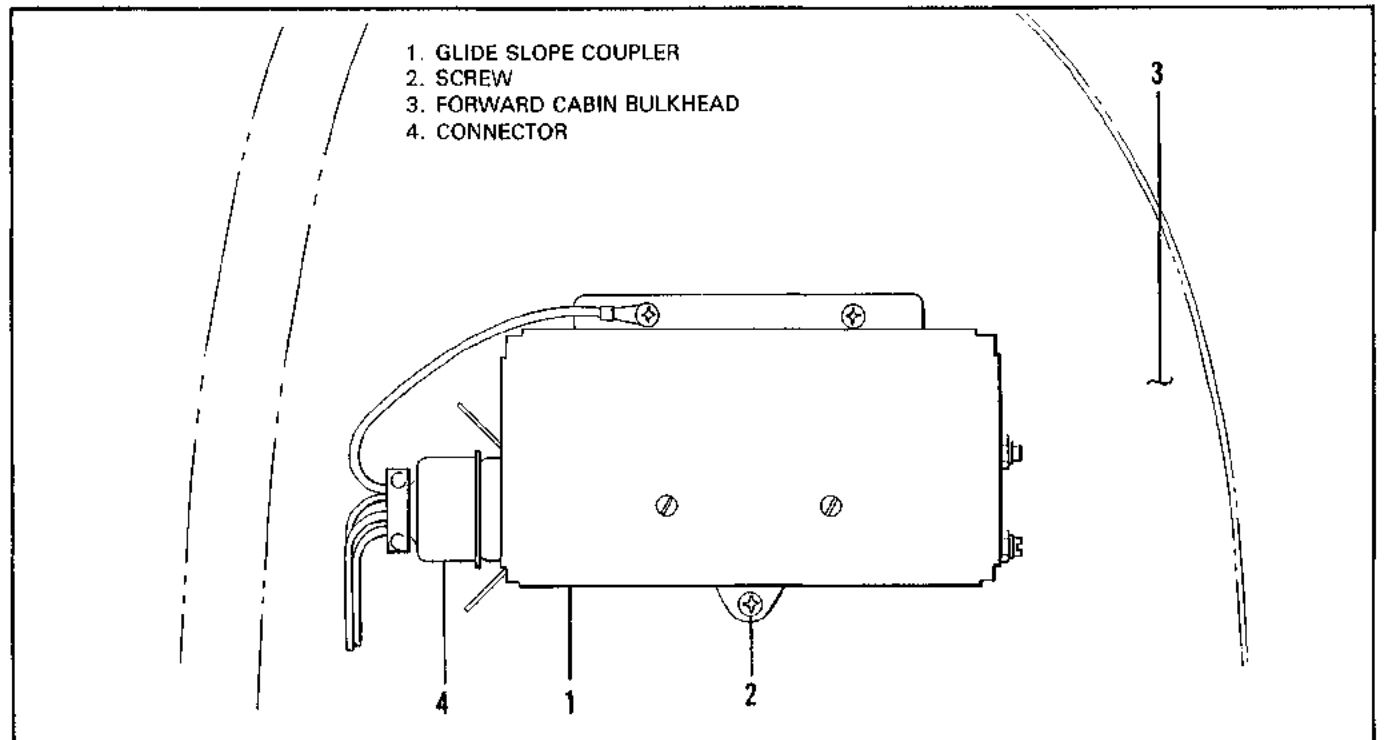

Figure 9-6. Glide Slope Coupler Installation, PA-44-180
**9-11. INSTALLATION OF GLIDE SLOPE COUPLER. (PA-44-180) (Refer to Figure 9-6.)**